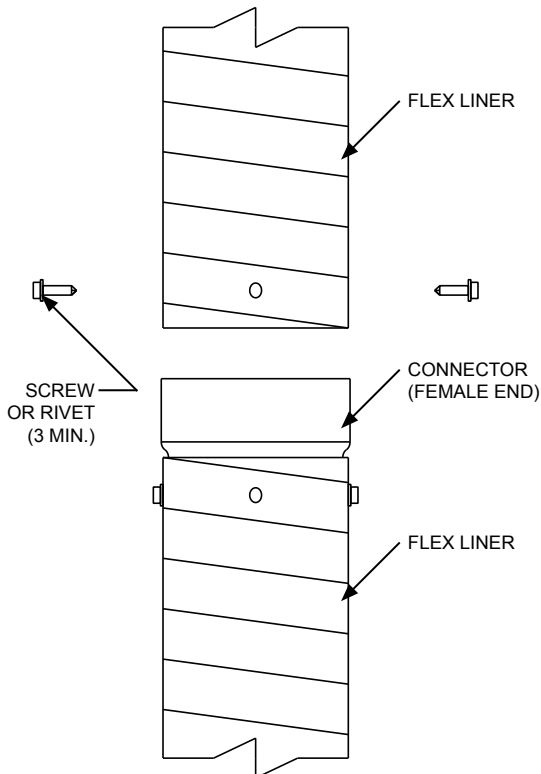

FIG. 6
4. Next insert bottom end of another flex liner length into female end of connector. Attach liner to connector by inserting a minimum three (3) #8 x 1/2" (M4 x 13 mm) self-tapping stainless steel screws into connector's pre-drilled holes. If rivets are used, pre-drill holes in liner and attach with three (3) 1/8" (3 mm) diameter stainless steel rivets (See **FIG. 6**). Screws or rivets must be equally spaced around the connector.